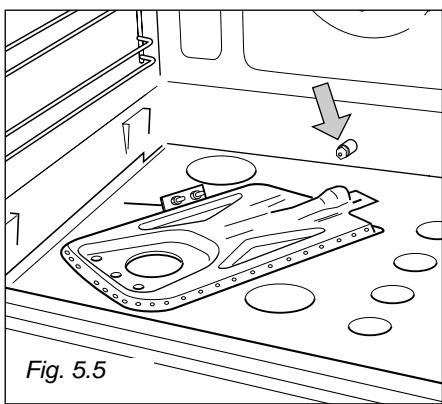

Fig. 5.5
- Pull out the burner as shown in fig. 5.5 and lay inside without removing it. Take care not to damage the wire to the ignition electrode and the safety valve probe.
- By a 7 spanner, replace the injector (fig. 5.5) according to the injectors table and then re-assemble proceeding backwards.